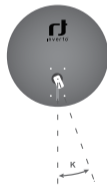

Fig. 3
3. After determining the correct position of the LNB, tighten screws that secure the LNB clamp so that the LNB is fixed in its place (Fig. 3).